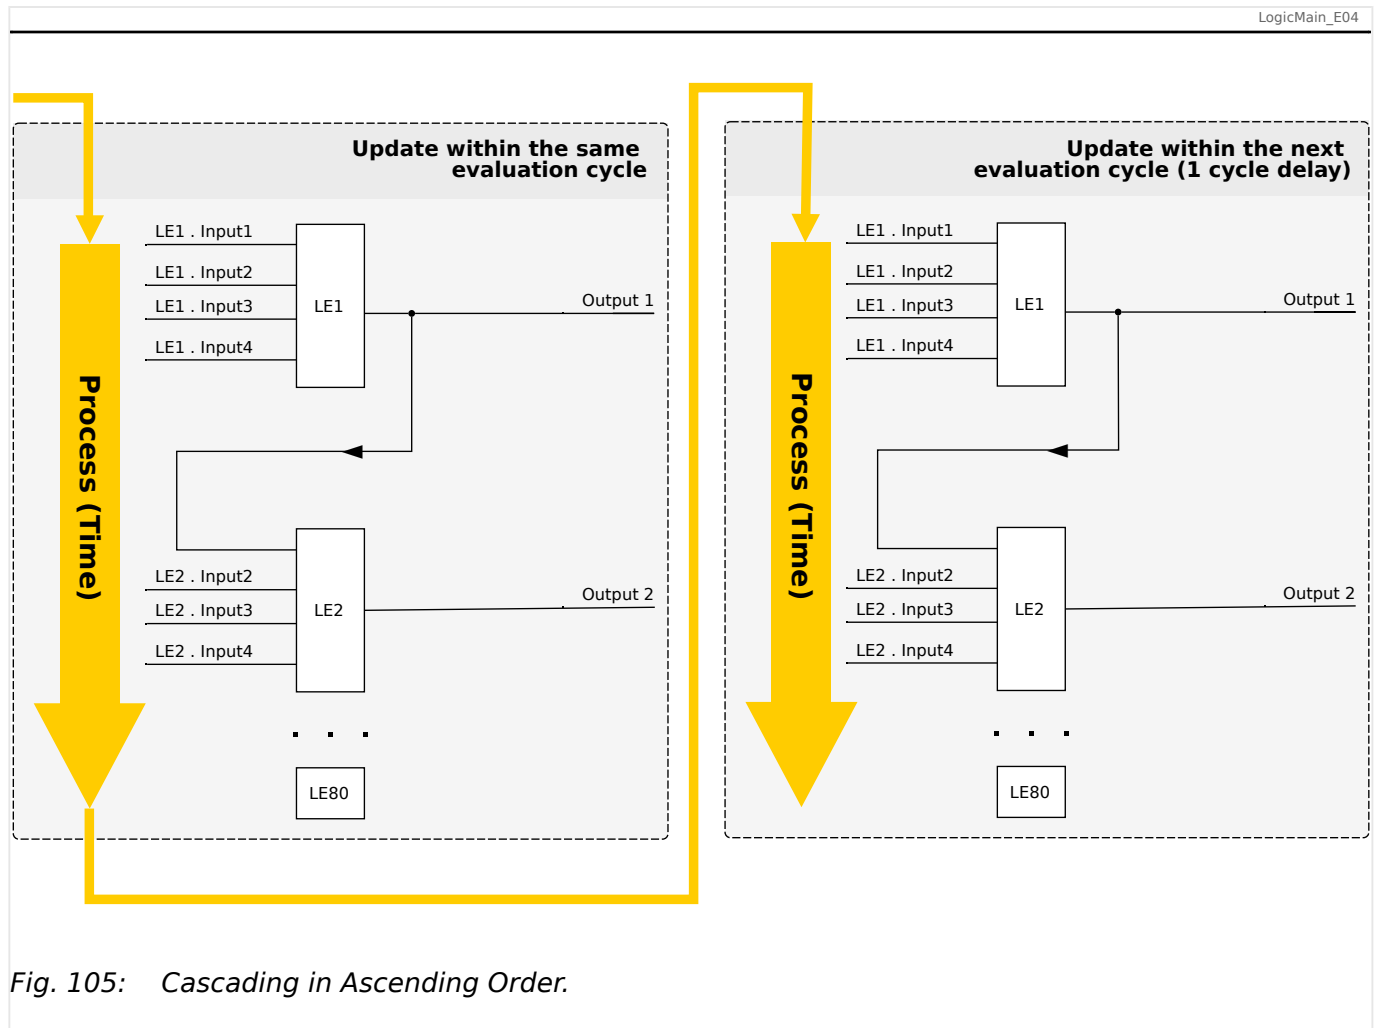
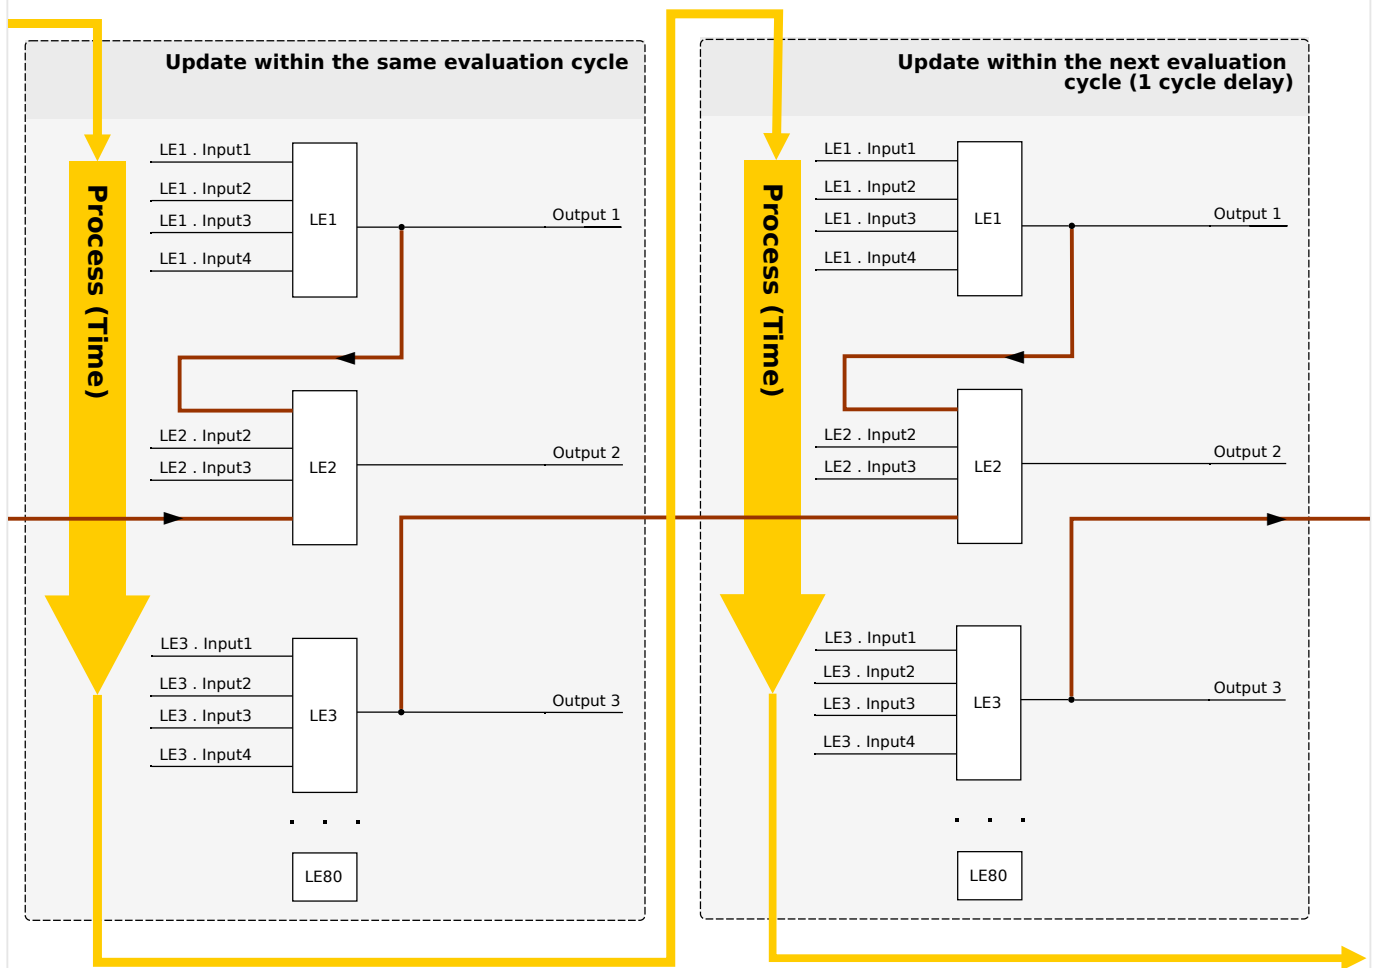

Fig. 105: Cascading in Ascending Order.
Fig. 106: Cascading in Descending Order.
- **Ascending** sequence means that some output is fed into the input of a logic equation with **higher** number. For instance, diagram  Fig. 105 below shows an example where the result of Logic Equation LE1 is used as an input of Logic Equation LE2.
- **Descending** sequence means that some output is fed into the input of a logic equation with **lower** number. For instance, diagram  Fig. 106 shows an example where the result of Logic Equation LE3 is used as an input of Logic Equation LE2.
Both ascending and descending sequences may be used and combined one with the other, with no immediate difference. However, due to the evaluation of all equations in ascending order the actual run-time values that are fed in at the input of an equation will have a different “age”, as is shown in  Fig. 105 and  Fig. 106 below.
In the example shown in  Fig. 106 above, “Logic Equation 2” uses the output states of two other equations, “Logic Equation 1” and “Logic Equation 3”. The result of “Logic Equation 1” is used in ascending order and has therefore been evaluated within the same process cycle. The result of “Logic Equation 3” is used in descending order and has therefore been evaluated in the previous process cycle.